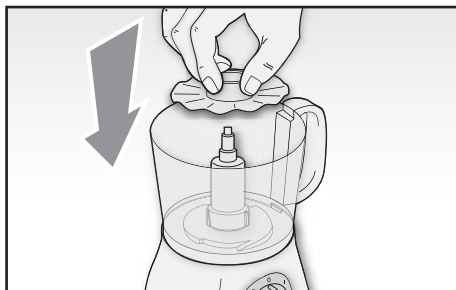

Fig. 6
Install the dedicated accessory (H) on the blade support (D) (Fig 6).